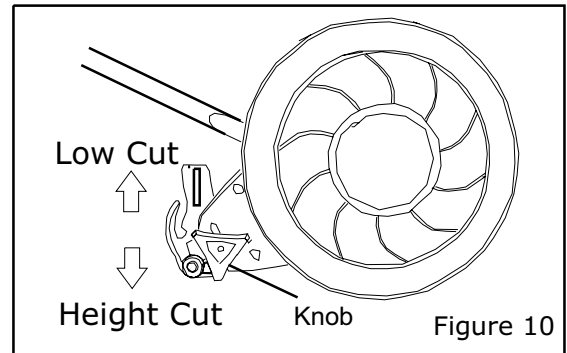

Figure 10
- (3) Slide the roller supports until the roller is at the required position, ensuring that it is level and the knobs are at the same height.
- (4) Tighten the knobs on both sides ensuring they are at the same height and properly secured. (See Figure 10)